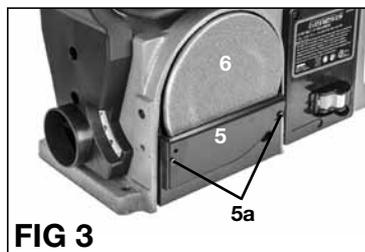

FIG 3
INSTALLING OR REPLACING SANDING DISC (FIG 3)
2. Using a Phillips screwdriver, loosen and remove two screws (5a) on the disc guard (5).
4. Peel off the old sanding disc (6).
6. Reinstall the disc guard as shown on FIG 3. The disc guard can be adjusted up and down to cover sanding disc for more protection.